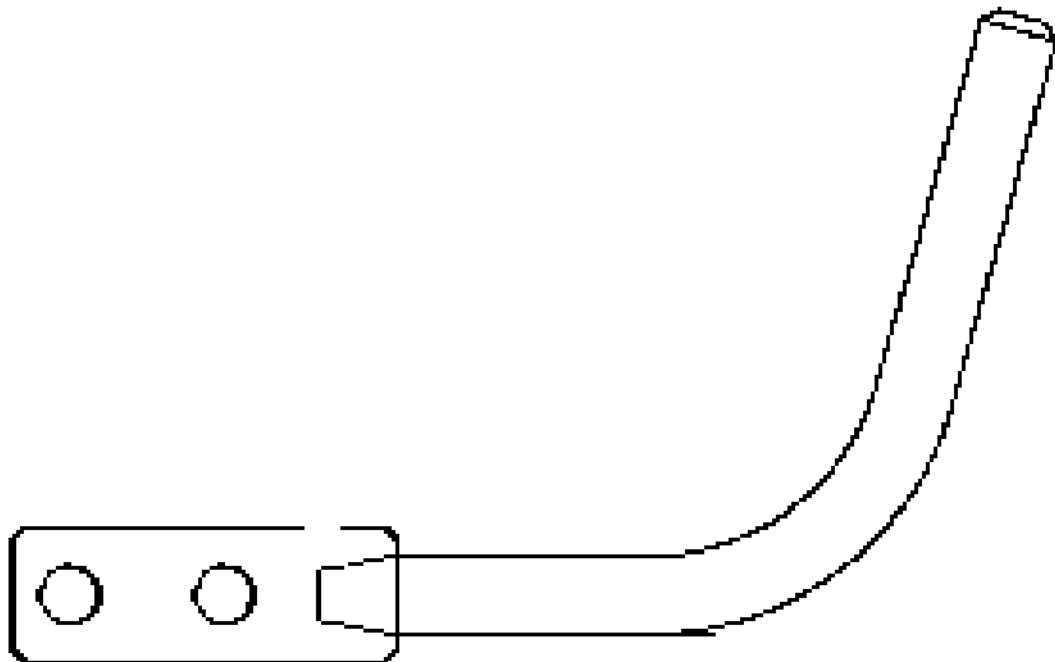

FIG. 3 - Hanger Bracket (13)
(Refer to FIG. 3 and 4)
10. Hang the fence head (7) and vacuum hose onto the new hanger bracket (13) when not in use. (Refer to FIG. 3 and 6)